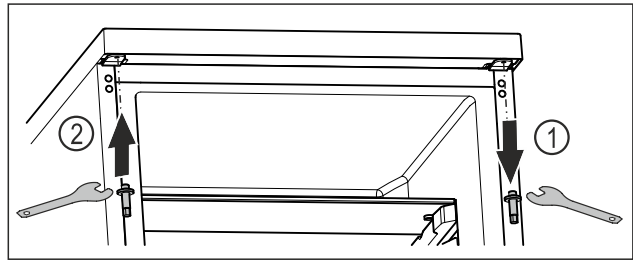

Fig. 18
- ▶ Unscrew the upper bolt with an Allen key. Fig. 18 (1)
- ▶ Tighten the bolt on the opposite side with an Allen key. Fig. 18 (2)